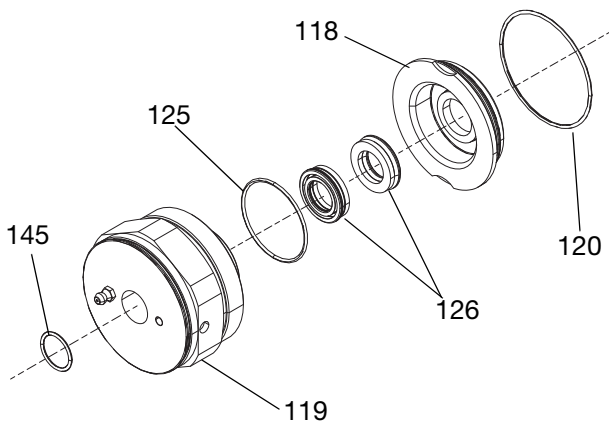

FIG. 23
5. Apply grease to the o-ring (145) and the two throat seals (126). Install the o-ring (145) into the upper most groove of the throat cartridge (119). slide O-ring (110 or 125 depending on pump model) over the boss end of the throat cartridge (119). Place first throat seal into the throat cartridge (119) and ensure the first throat seal spring faces towards the bottom of the throat cartridge. Using a suitable size socket or dowel, press the throat seal to the bottom of the throat cartridge
6. Place the second throat seal (126) into the throat cartridge (119) ensuring the spring side faces up toward the throat retainer (118). Using a suitable size socket or dowel, press the second throat seal into the throat cartridge until it contacts the first throat seal. See FIG. 23.